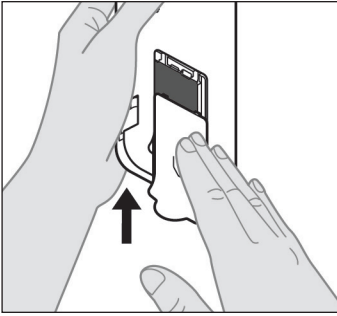

Figure B1
- Slide the battery cover onto the pump (see *Figure B1*).